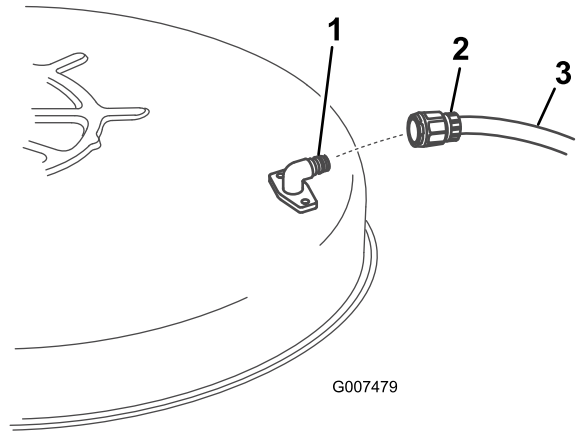

Figure 37
5. Attach the hose coupling to the end of the mower washout fitting and turn the water on high (Figure 37).